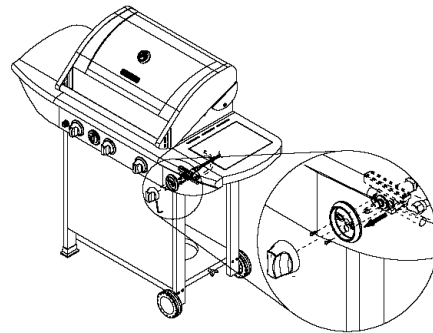

Figure 12
5. Insert valve into side burner control panel, place control knob bezel on, tighten on control panel with screws on valve. Assemble the control knob of side burner (Fig. 12)